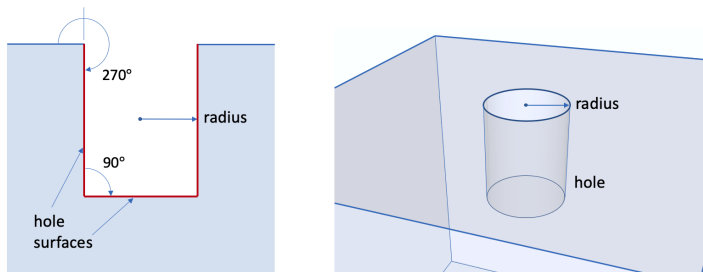

Figure 10. Hole Example
- **Holes** - Holes are a special category of **Cavity** (see below). They are collections of surfaces that are bounded by curves where the exterior angle is greater than 180 degrees and at least one of the surfaces have a radius of curvature less than the **Hole Radius** threshold. Figure 10 illustrates a hole that is comprised of a cylindrical surface and a planar circular surface. Resulting hole collections of surfaces are ordered based upon their cylindrical radius. Holes can be candidates for the remove surface cavity command.